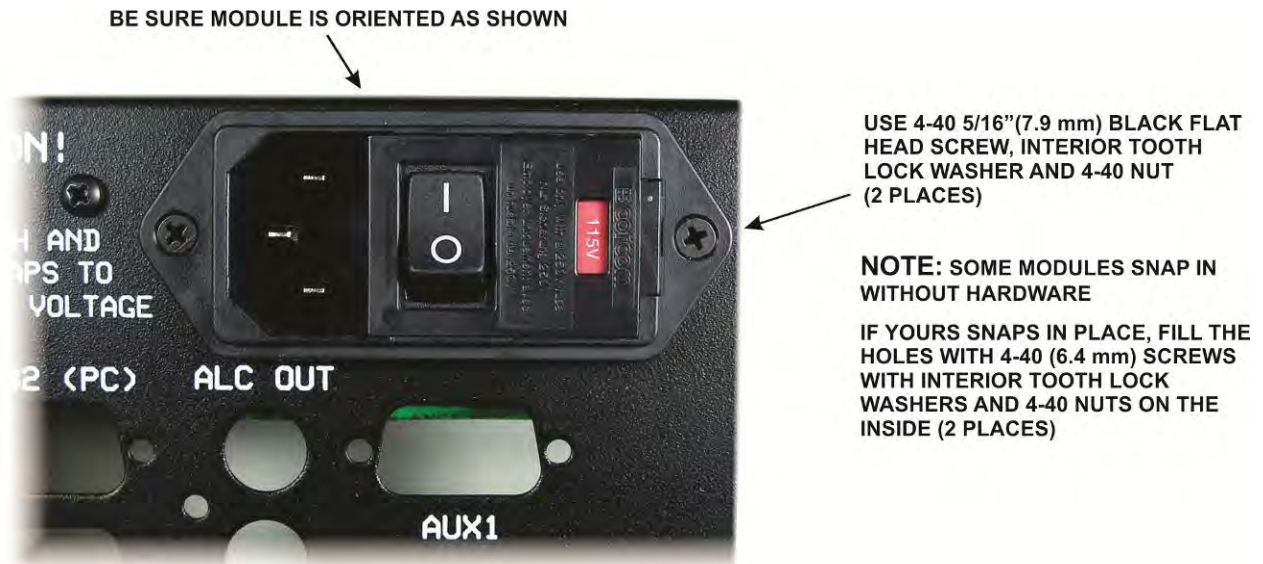

Figure 22. Installing the Power Entry Module.
- Install the mains power entry module as shown in Figure 22.